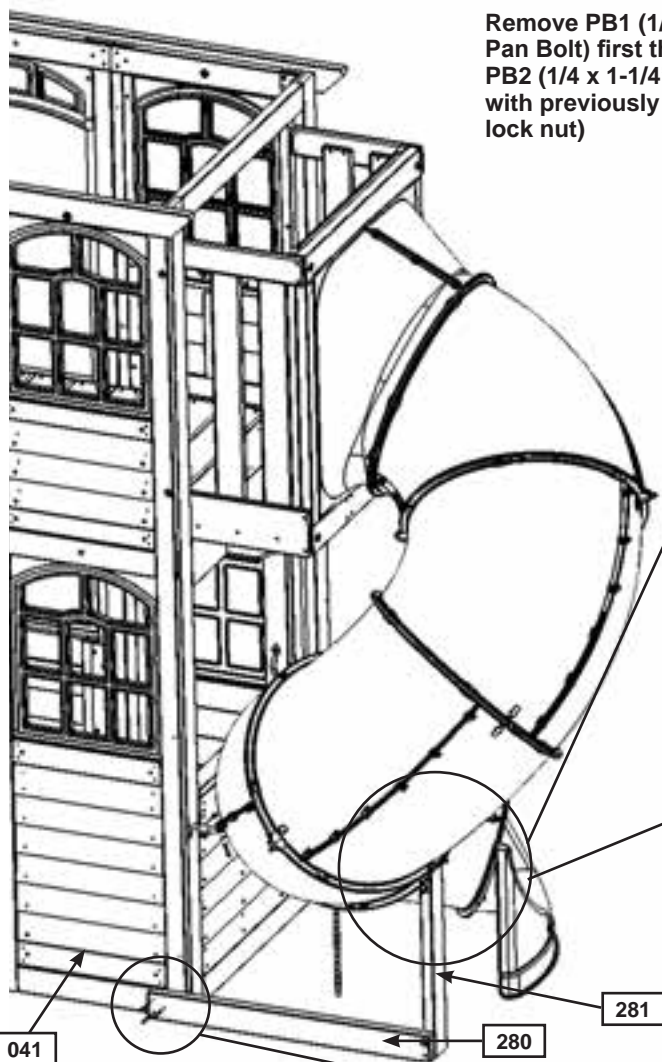

Fig. 30.2
**B:** Attach the top of the TNR3 Post Mount to TNR2 Slide Clamp Ring using 1 (PB2) 1/4 x 1-1/4" Pan Bolt (with the previously removed lock nut). (fig. 30.2)